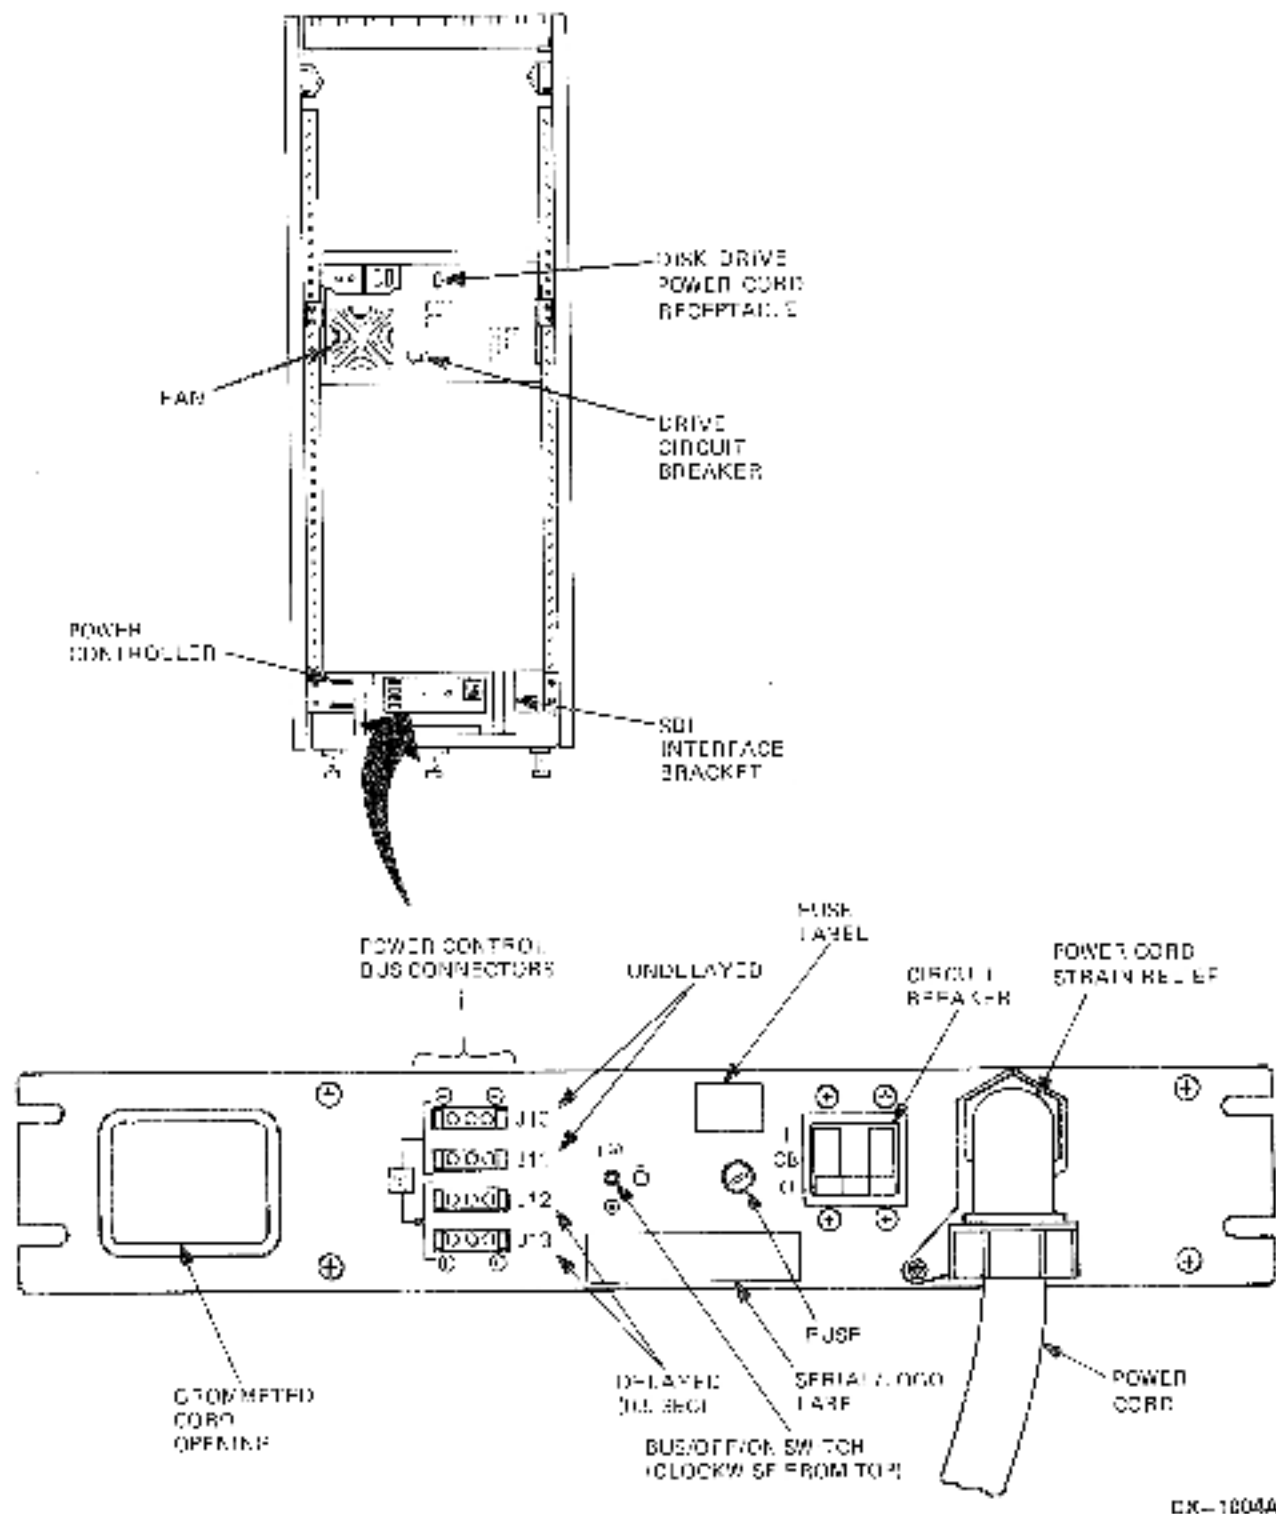

Figure 3-17 Rear Cabinet Power Controls (60-Inch Cabinets)
1. Verify the ac circuit breakers on the power control unit and each disk drive are in the OFF position. Refer to Figure 3-17 for four high (60 inch) cabinets or Figure 3-18 for three high (40 inch) cabinets.
3. Switch the air circuit breaker on the power control unit to the ON position. Refer to Figure 3-17 for four high (60 inch) cabinets or Figure 3-18 for three high (40 inch) cabinets.
Make sure the drive and logic fans are working every time the drive is turned on. These cooling fans must be working to operate this equipment. Refer to Figure 3-17 for four high (60 inch) cabinets or Figure 3-18 for three high (40 inch) cabinets, and Figure 3-12 for fan locations.